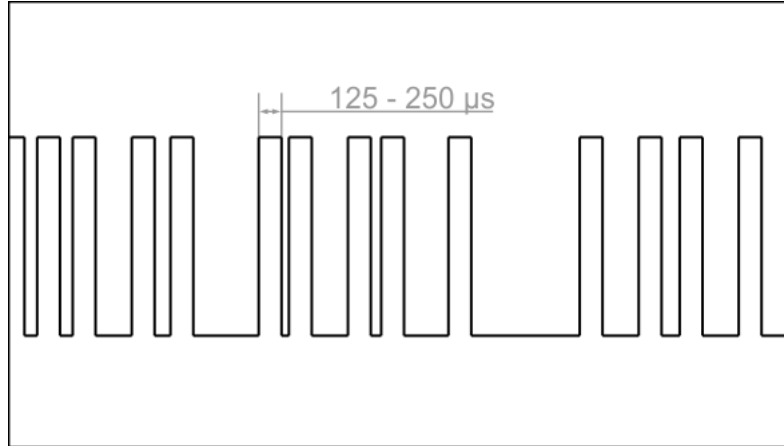

FIGURE 6: ONESHOT 125
Figure 6 shows a OneShot125 signal. OneShot125 is a modification of OneShot designed to improve system stability and responsiveness by reducing the delay between the flight controller and the ESC. OneShot125 scales down the OneShot signal by a factor of eight (8), reducing the endpoints to 125 μ s (0% throttle) and 250 μ s (100% throttle). Like OneShot, the signal low-time and